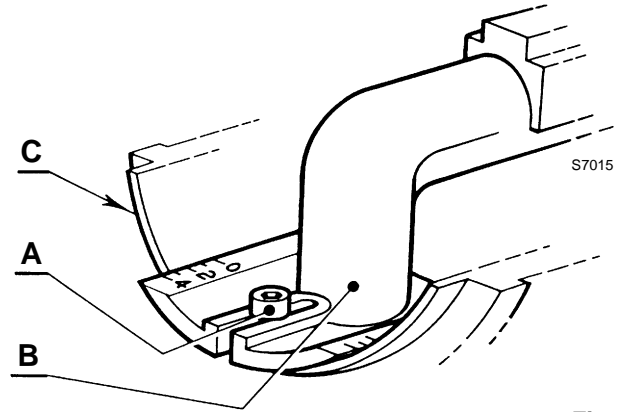

Fig. 12
- loosen the screw A (Fig. 12 ), move the elbow B so that the rear plate of the coupling (C) coincides with the set point;